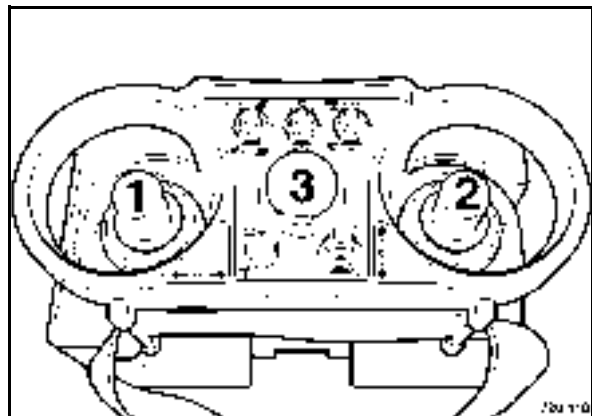

Fig. 81
- With the transmitter switched off actuate and hold one of the travel levers 1 or 2 (Fig. 81).